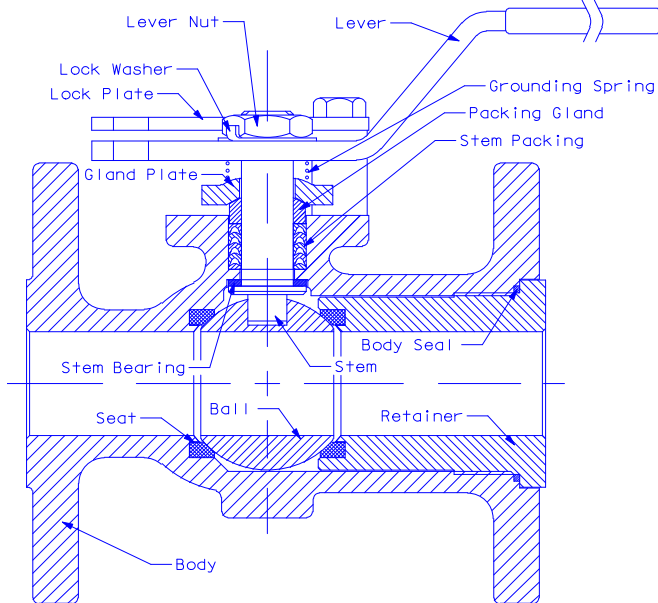

Figure 2: Typical One Piece Valve Assembly
- **One Piece only** Insert the retainer seat and thread the retainer into the body. See Figure 2.